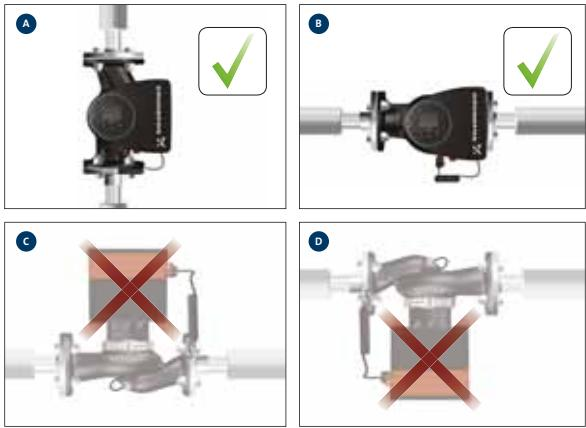

Fig. 6 Pump installed with a horizontal motor shaft
- Pump installed correctly in a vertical pipe. See fig. 6 (A).
- Pump installed correctly in a horizontal pipe. See fig. 6 (B).
- Do not install the pump with a vertical motor shaft. See fig. 6 (C and D).